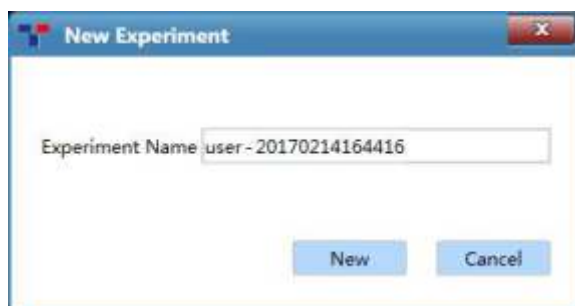

Figure D-2.1c Quick start bar - New Experiment
- Click < **New Experiment** > and the application software will automatically pop up the new experiment dialog box, as shown in figure D-2.1c. Users can manually enter a name in the **Experiment Name** input box and click < **New** > to create a new experiment file.